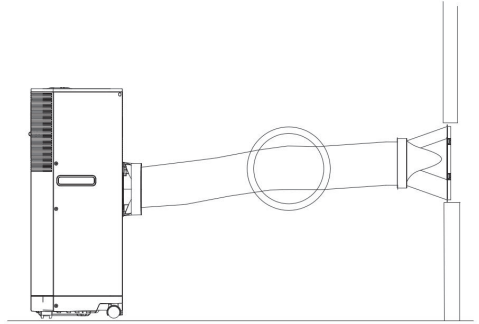

FIG.7
- Avoid kinks and bends in the exhaust hose as this will cause expelled moist air to build up causing the unit to overheat and shut down. Fig. 7 show correct position